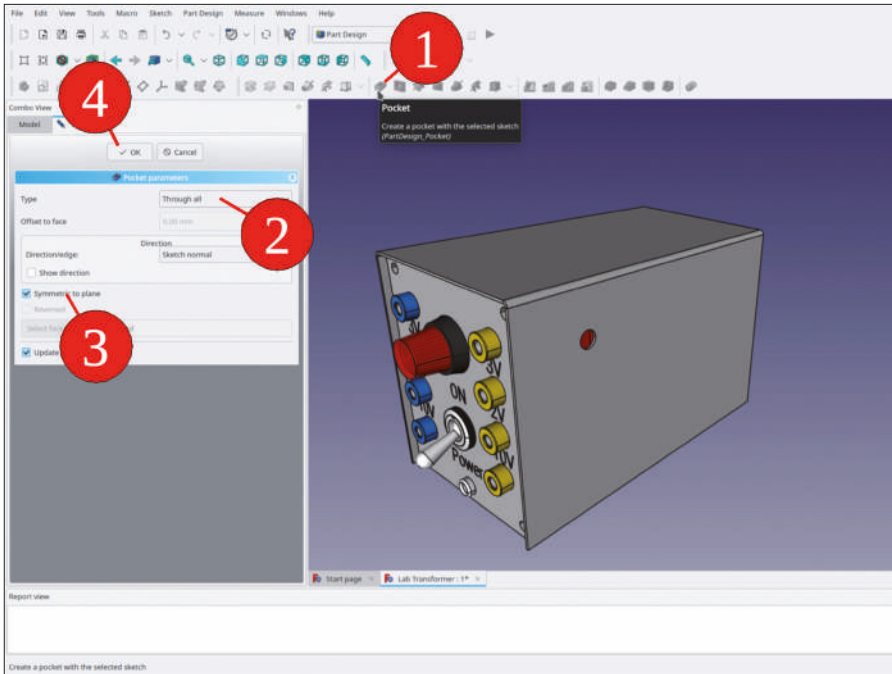

Figure 9-121
25. With the new sketch marked in the tree view, click the 'Pocket' tool button. In the task window, select for the type 'Through all' and check the 'Symmetric to plane' checkbox (Figure 9-121). This creates a hole in both sidewalls at the same time. Close the task window with the 'OK' button.